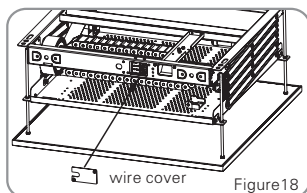
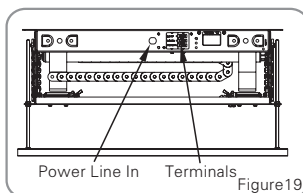

Figure18
Figure19
*External IR/RF remote control(Optional, External Slot in the back of Lift)(Figure 18 –20)
12. Before contacting the power cable of projector lift, please take out the wire cover in the back of lift (Figure 18). Then choose the control option and connect the controlling wires to terminals(Figure 19– 20). For humanization, link the power after fixing the controller of cables on a place for easy using.